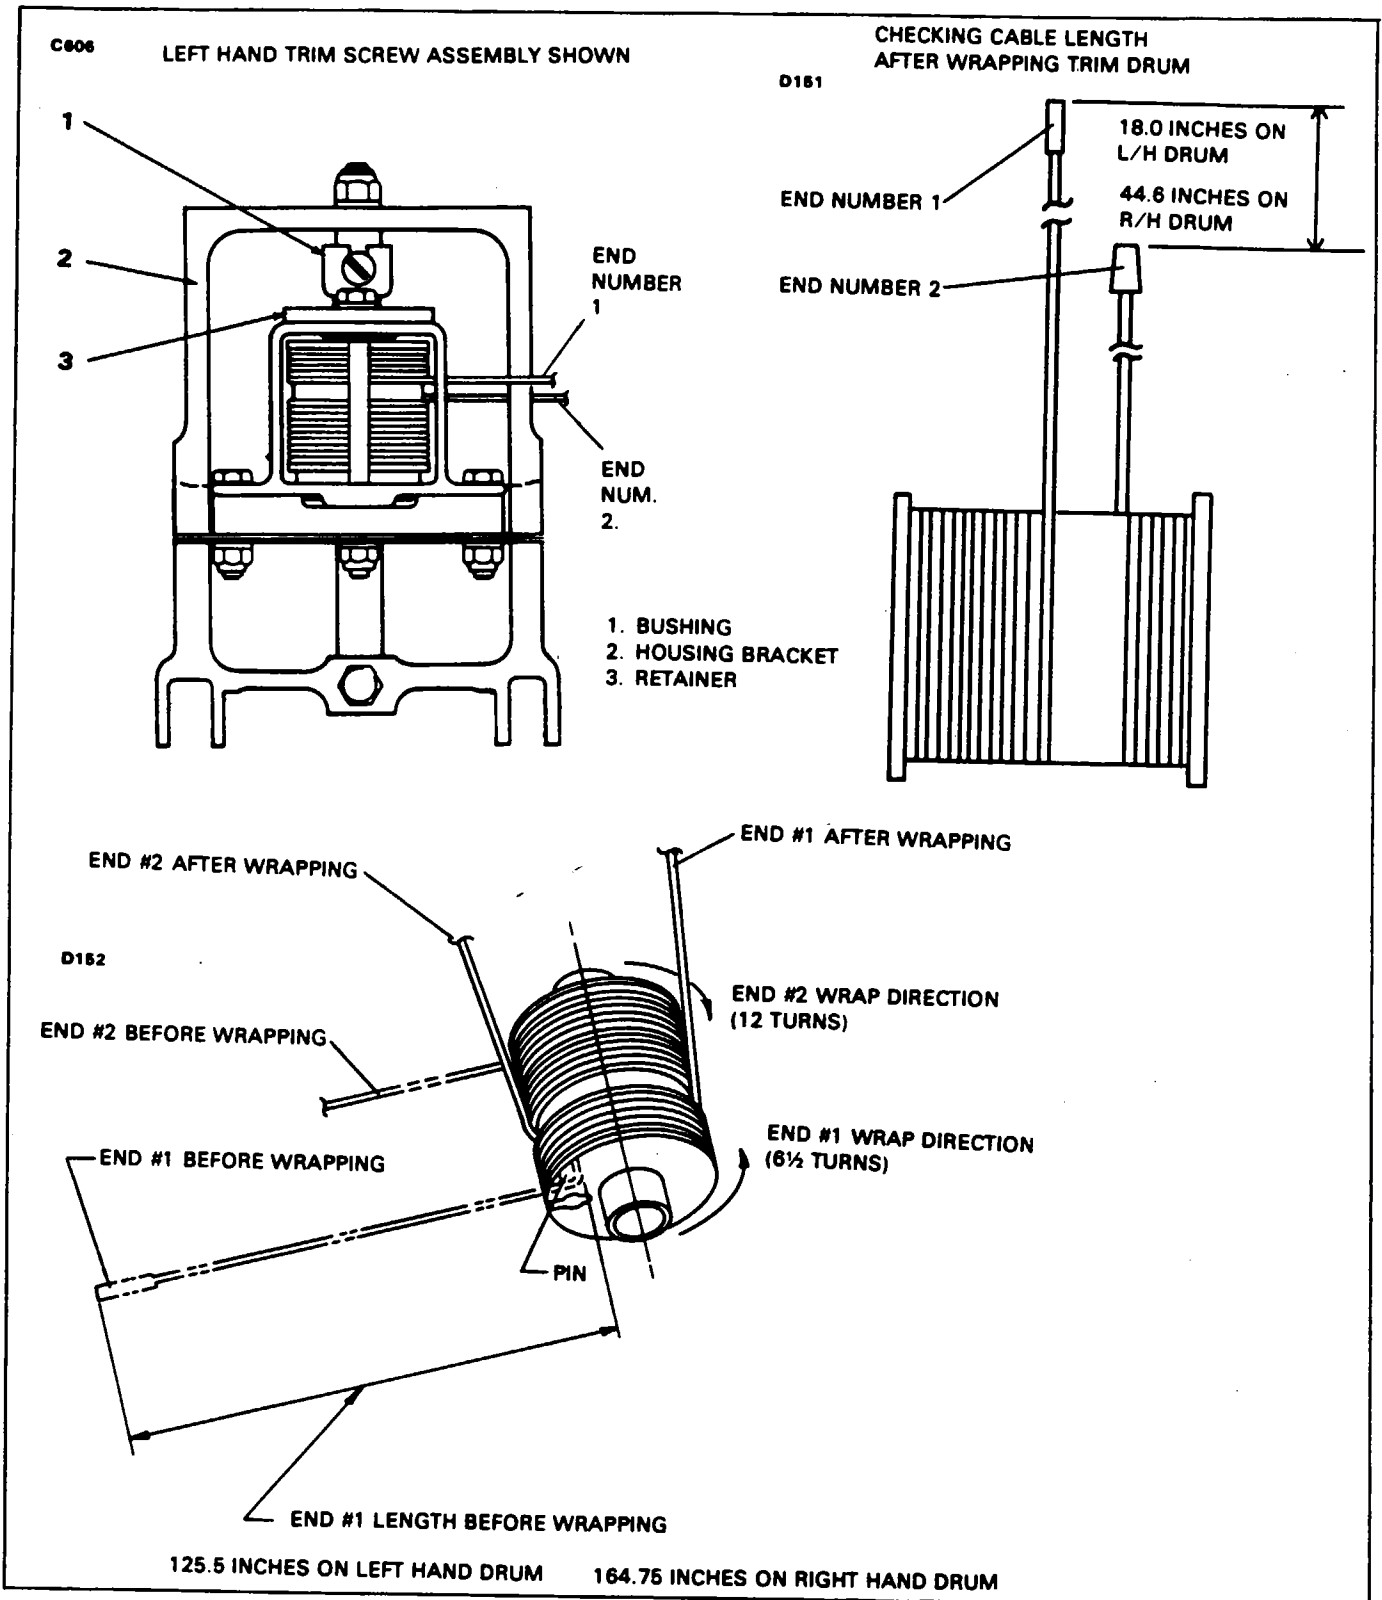

Figure 27-21b. Wrapping Elevator Trim Drums
WRAPPING ELEVATOR TRIM DRUM (ELEVATOR). (Refer to Figure 27-21b.)
2. Insert the drum in the housing bracket, position the drum and route the cables from the assembly as shown in Figure 27-21b.
5. Insure there is 1.34 inches between the lower surface of the plate and the boss on the bracket. Insure there is .07 inch between the upper surface of the retainer and the lower surface of the bushing. (Refer to Figure 27-21b.)